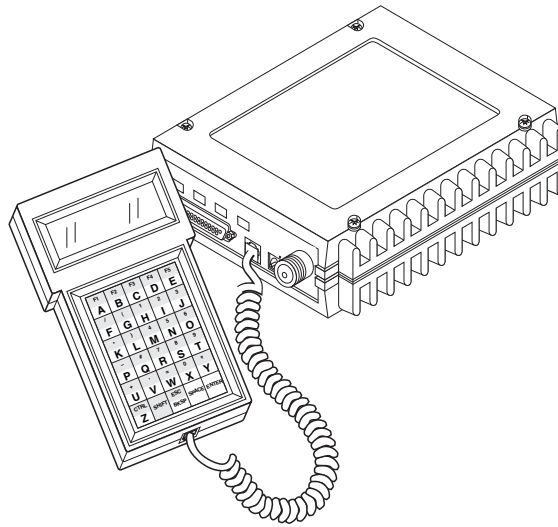

Figure 8. Hand-Held Terminal Connected to the Transceiver
1. Connect the HHT's coiled cord to the DIAG. (RJ-11) jack on the radio as shown in Figure 8. This automatically places the radio into the control and programming mode.